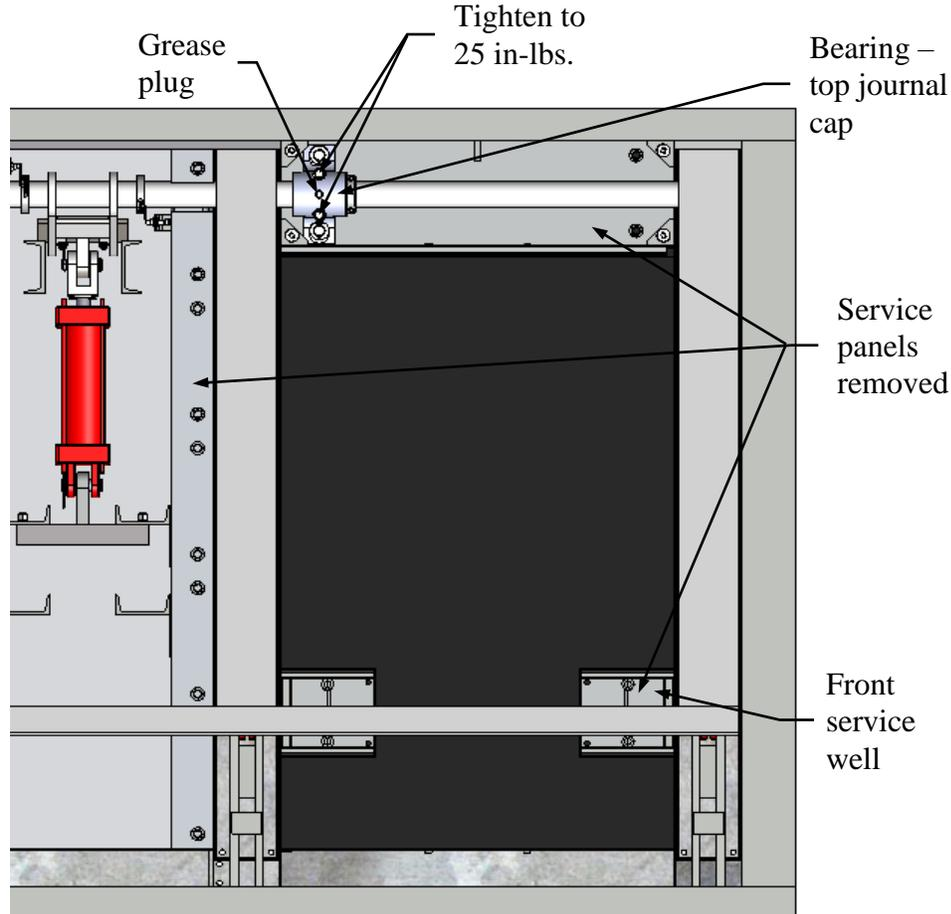

Figure 11 - Annual inspection (828H# Series shown)
- 4.5.3. Remove the top journal of the pillow block bearing assemblies. See **Figure 11 - Annual inspection.**